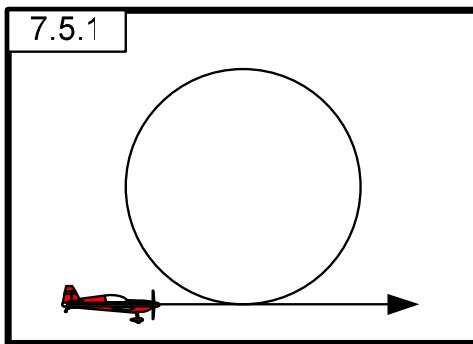

Fig. 31
All full loops must appear perfectly round to the judge (Fig. 31). If required, they must be wind corrected to have a constant radius. This wind correction is not only with regards to the roundness of the loop but also for the effect of any cross-wind on the figure. Therefore, a standard deduction of one (1) point per ten (10) degrees should be applied if the finish point is displaced in a direction